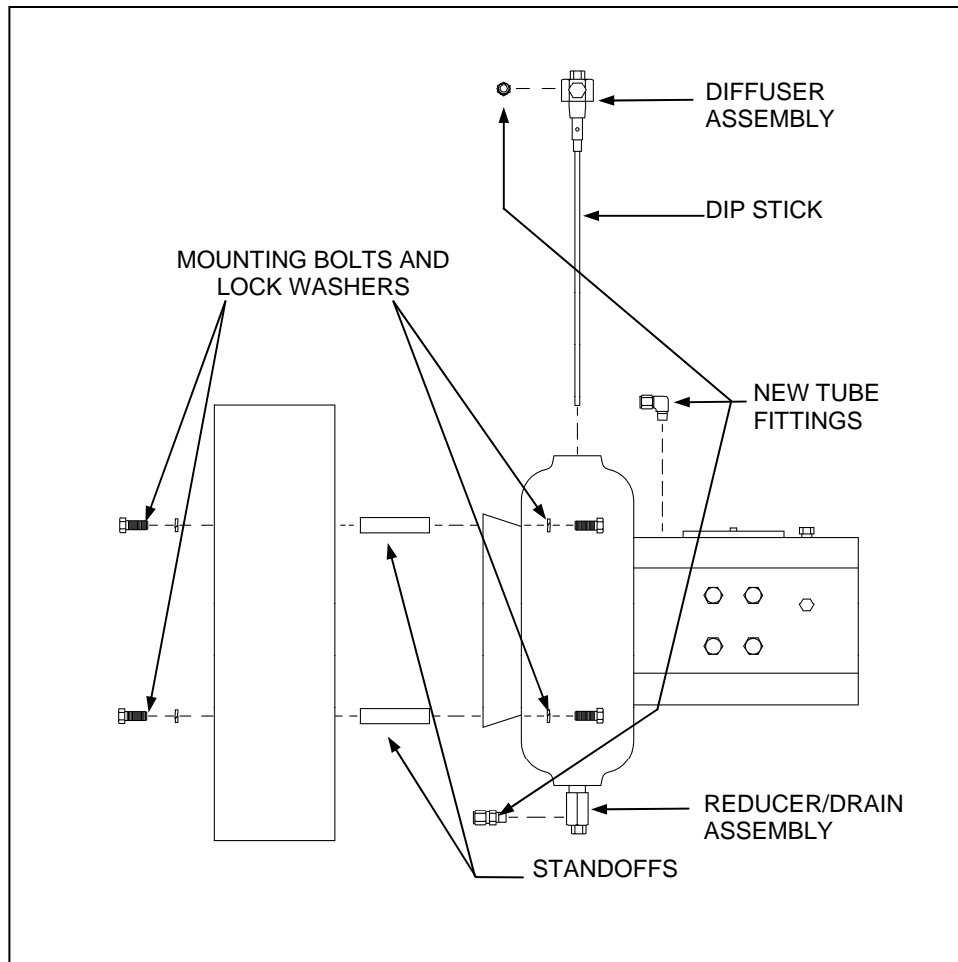

Figure 3: Installing New Control
1. Using 4 of the 8 mounting bolts and lock washers, install the four standoffs to the mounting bracket. Do not tighten the bolts. (See Figure 3)
6. Install new Swagelok[®] fittings in the hand pump, actuator upper head, poppet block control and tanks. Apply an appropriate pipe sealant to the threads. (See Figures 3 and 4)
- Run tubing from the discharge ports located on top of the hand pump valve body, or optional speed controls if applicable. The right side of the pump runs to the port on the right in the upper head of the actuator (as you are facing the new hand pump). The left side of the pump runs to the port on the left in the upper head of the actuator. (Make sure you are using the ports in the upper head closest to control box, not the ones on the far side see Figure 3).